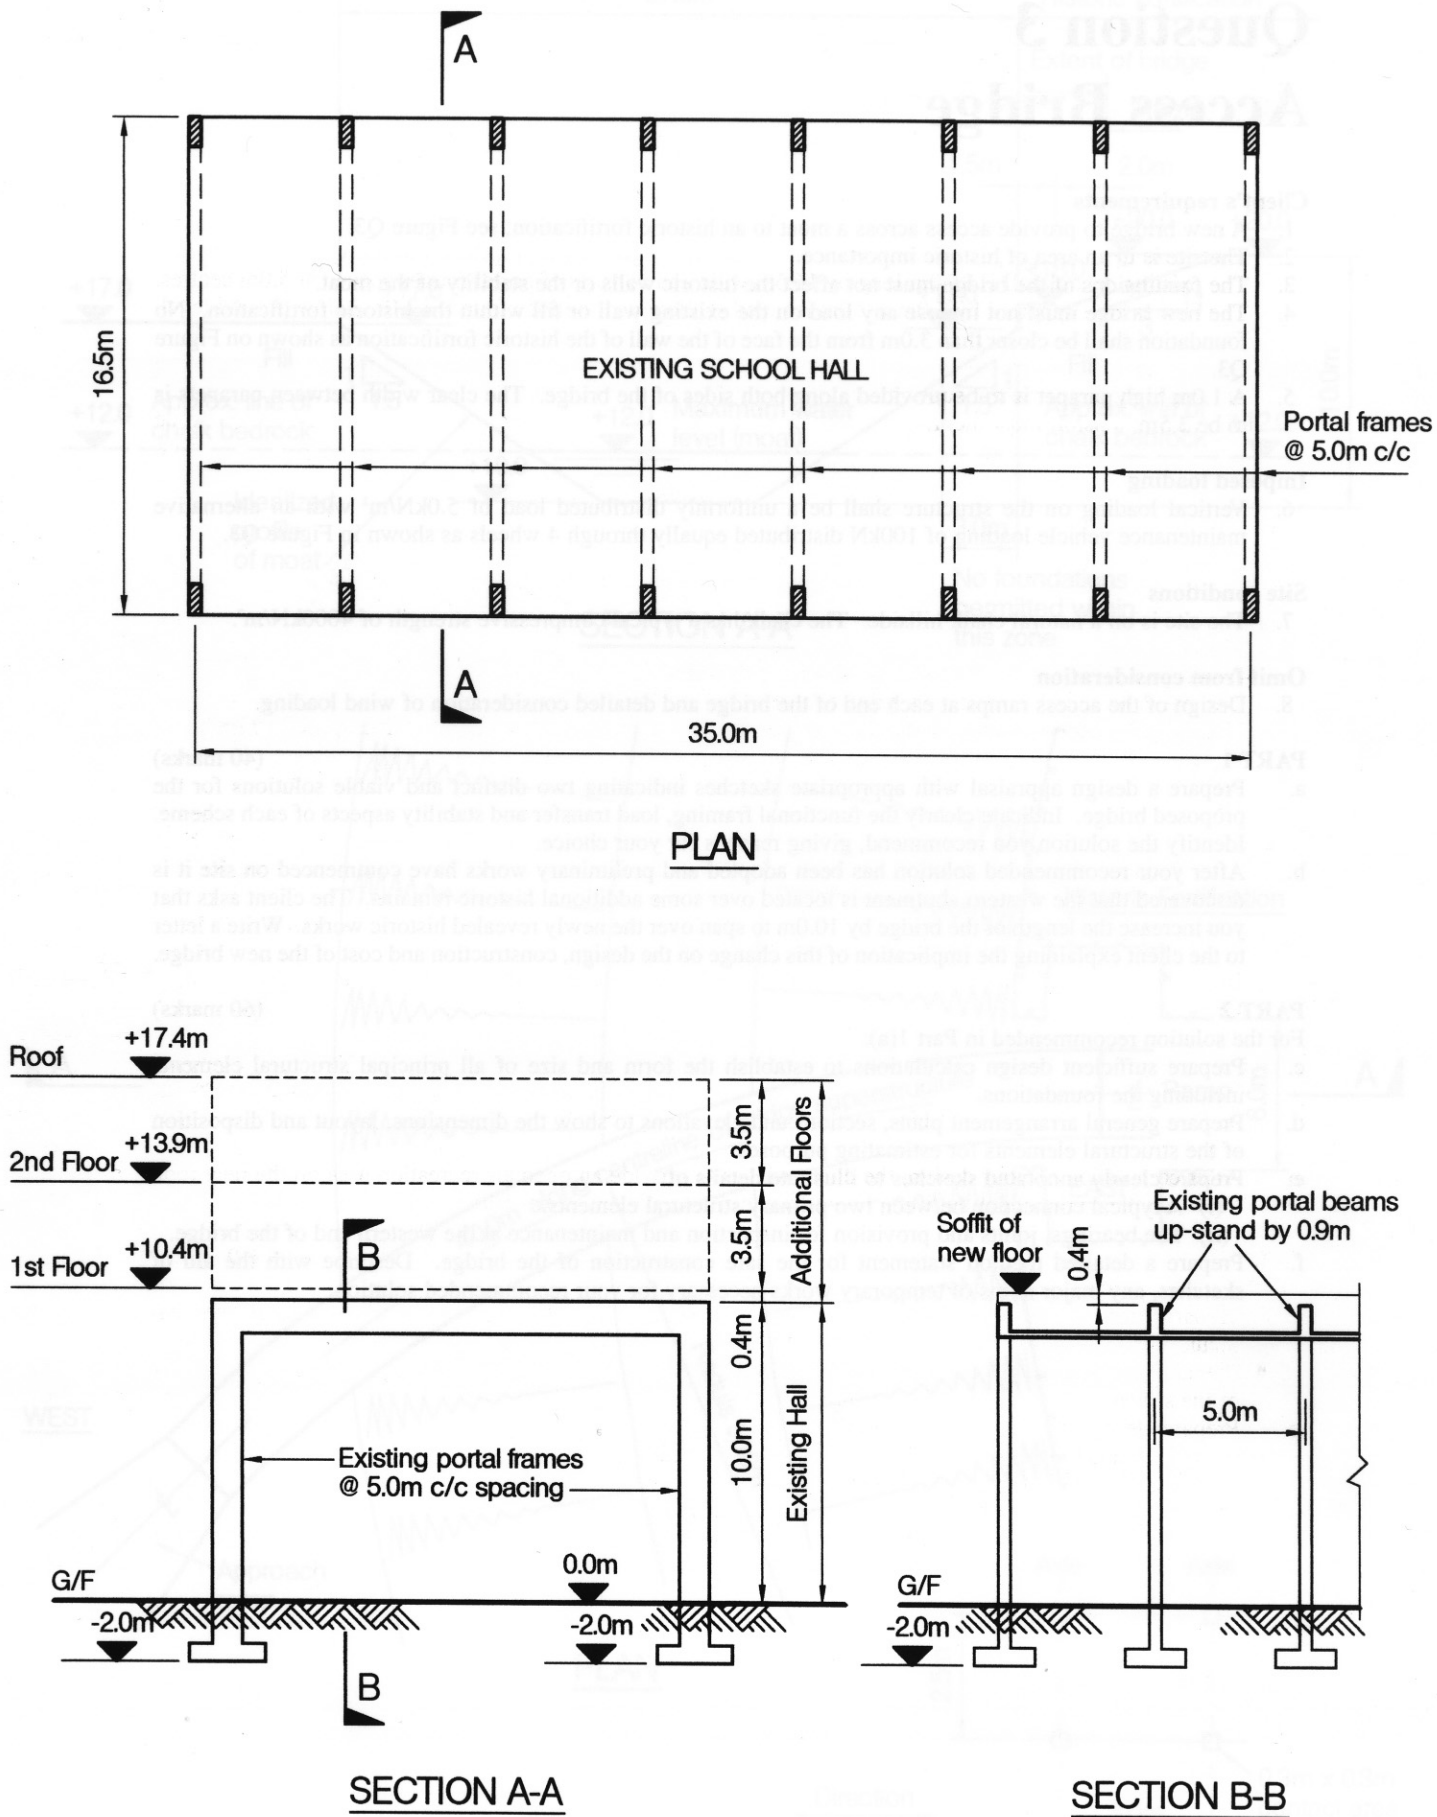

FIGURE Q4
1. A school is to be extended by adding two floors above the existing school hall for 16 additional classrooms; see Figure Q4. The proposed extension is to be clad in a lightweight proprietary sheeting.